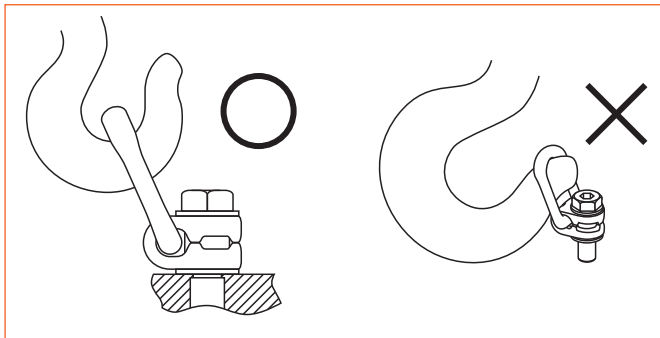

Fig. 1.
- Attach lifting device ensuring free fit to Lifting Point bail (lifting ring) (Fig. 1).